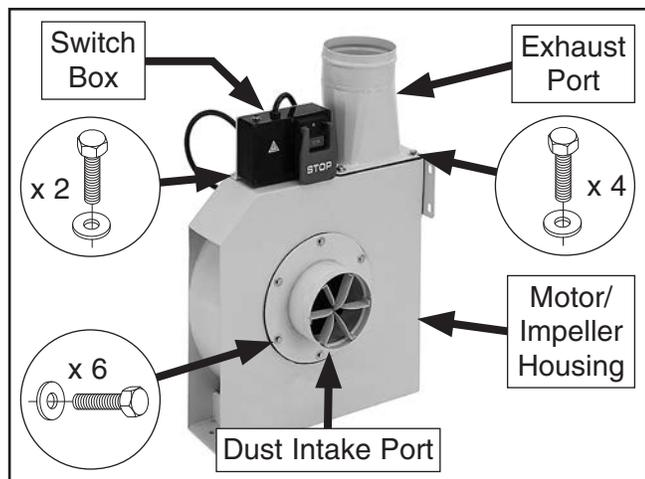

Figure 21. Dust intake port, exhaust port, and switch box attached to motor/impeller housing.
15. Place rubber gasket on 6" dust intake port, then attach to motor/impeller housing using (6) $\frac{1}{4}$ "-20 x $\frac{3}{4}$ " hex bolts and (6) $\frac{1}{4}$ " flat washers (see **Figure 21**). Tighten in star pattern.
16. Place rubber gasket between exhaust port and motor/impeller housing, then attach using (4) $\frac{5}{16}$ "-18 x $\frac{3}{4}$ " hex bolts and (4) $\frac{5}{16}$ " fender washers (see **Figure 21**).
17. Attach switch box to motor/impeller housing using (2) $\frac{5}{16}$ "-18 x $\frac{3}{4}$ " hex bolts and (2) $\frac{5}{16}$ " fender washers (see **Figure 21**).